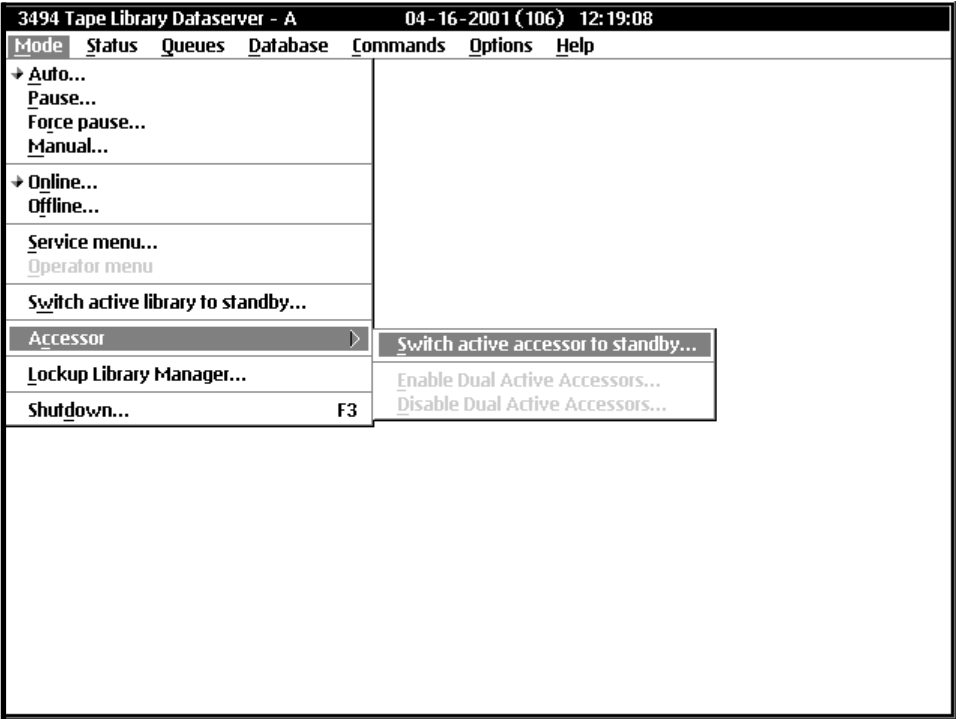

Figure 164. Mode Window
1. Select **Mode** (Figure 164) from the action bar of the Operator menu at the Library Manager (see “Using the Mode Window” on page 108).